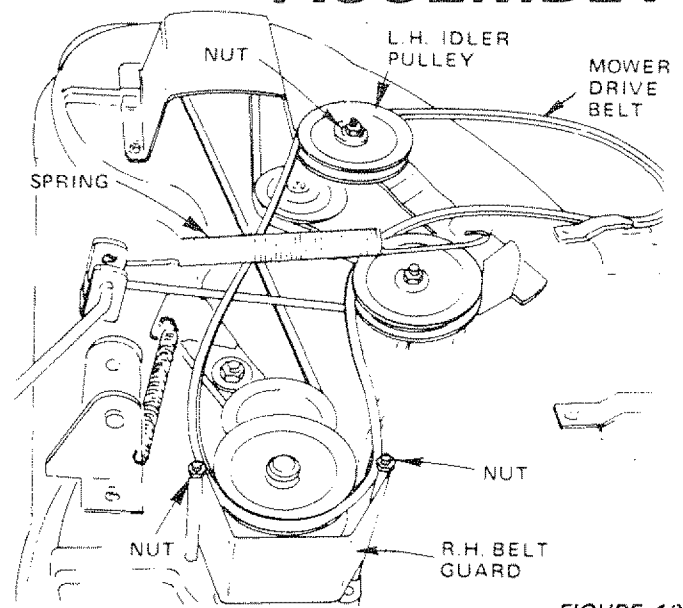

FIGURE 10
- Use 1/2" wrench to loosen two nuts on R.H. belt guard. Pull belt off pulley (Fig. 10).
- Use 9/16" wrench to loosen nut on L.H. idler pulley. Pull belt off pulley (Fig. 10).
- Replace brake springs, brake rod and retainer spring. Tighten two nuts on belt guard and nut on L.H. idler pulley (Fig. 10).